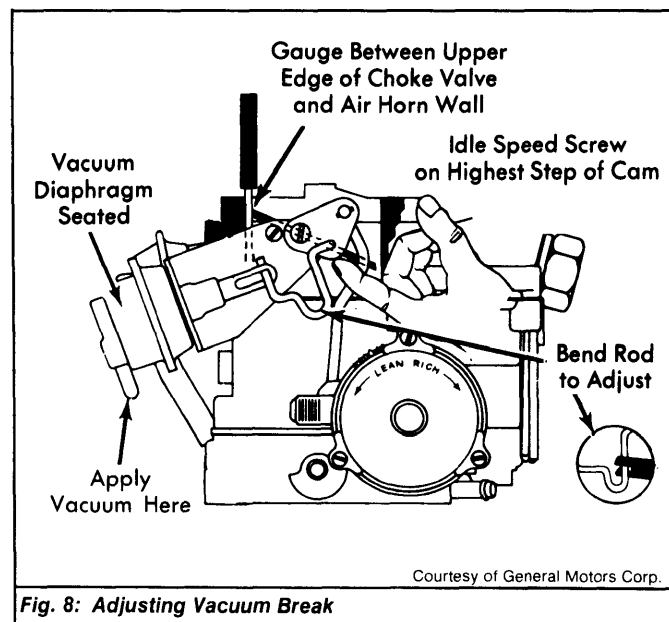

Fig. 8: Adjusting Vacuum Break
1) Place cam follower on HIGHEST step of fast idle cam. Use outside vacuum source and apply enough vacuum to seat diaphragm. See Fig. 8.